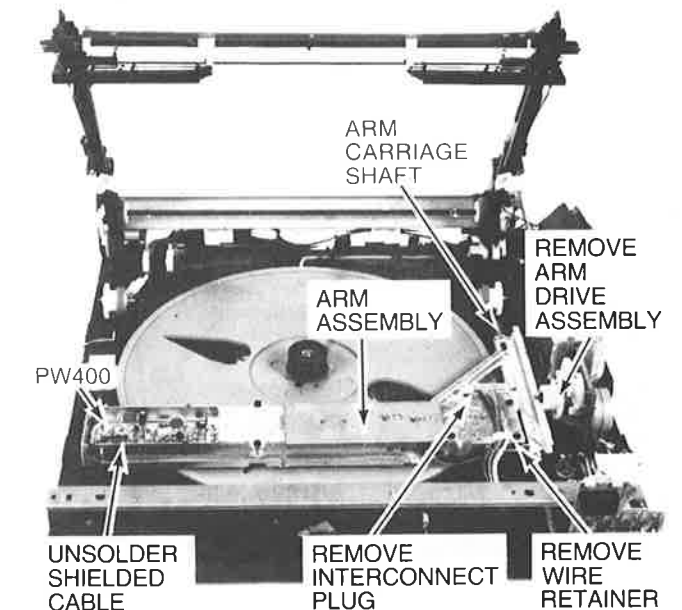

Fig. 20—Turntable and Arm Assembly
guide rail assembly and lift assembly to 45° angle. (Fig. 20).
6. Lift Arm Carriage Shaft (Fig. 20) from its rear baseplate mounting and pull it loose from its front baseplate mounting.